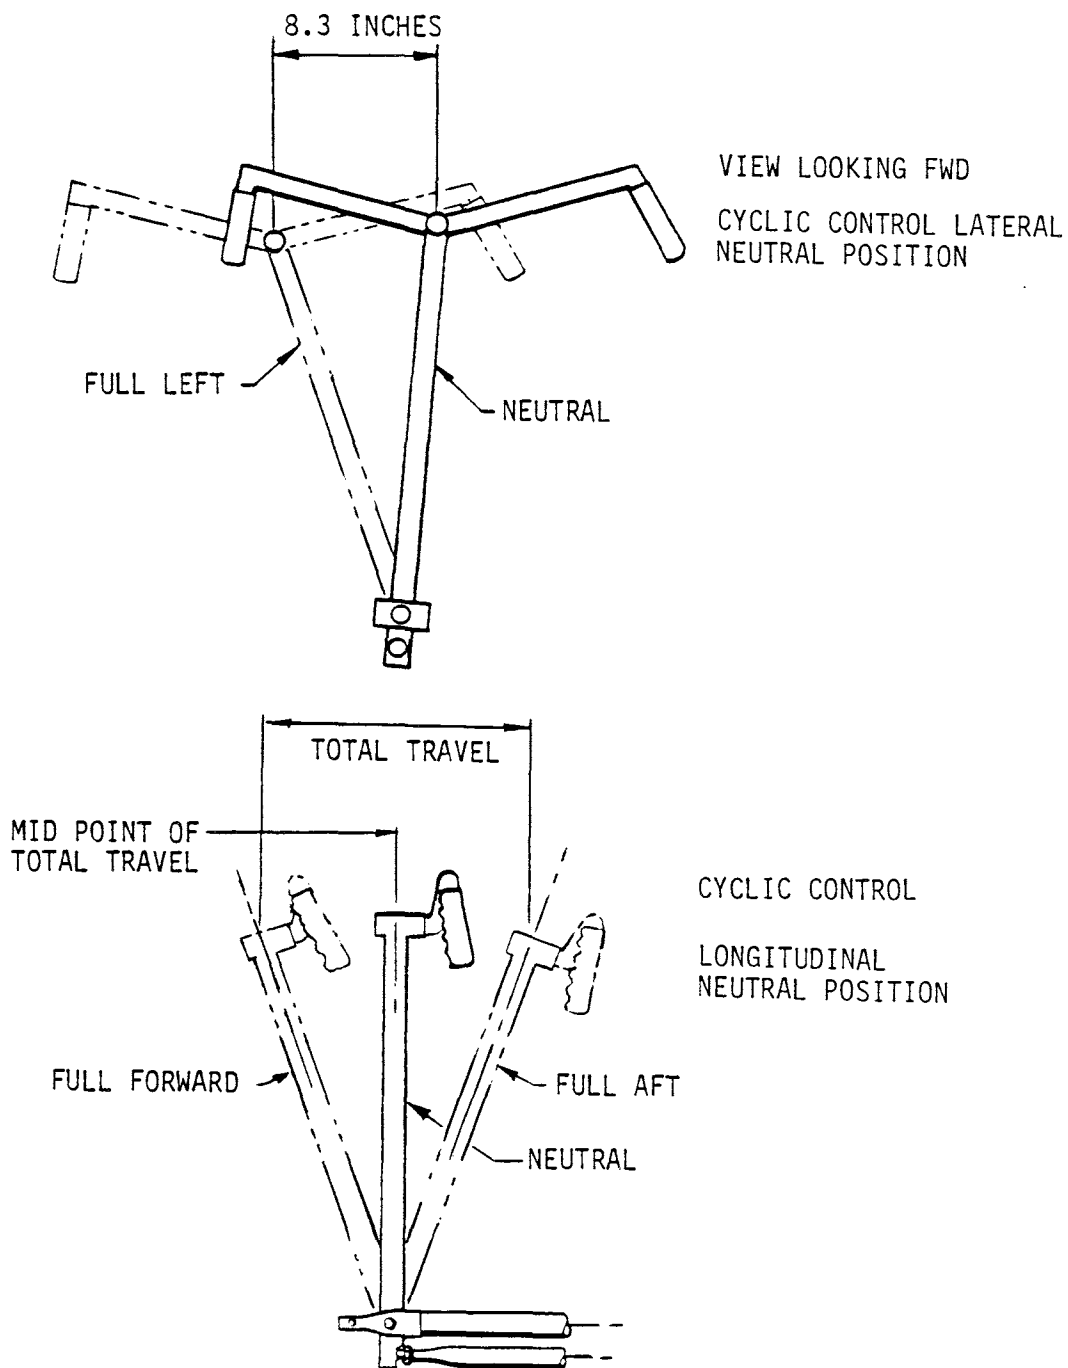

FIGURE 10-1 CYCLIC CONTROL STICK NEUTRAL POSITION
- d) Place the cyclic control in the neutral position. This point is 8.3 inches to the right of full left travel and at the mid-point of the total fore and aft travel. (See Figure 10-1). Place the collective control full down.
2. Refer to Figure 10-1. Place collective control full down. Place cyclic control in neutral position laterally and hold against forward stop.
5. Refer to Figure 10-1. Place cyclic control in neutral position laterally and hold against aft stop.
7. Refer to Figure 10-1. Place cyclic control in neutral position longitudinally (mid-travel) and hold cyclic against left stop.
10. Refer to Figure 10-1. Place cyclic control in neutral position longitudinally (mid travel) and hold against right stop.